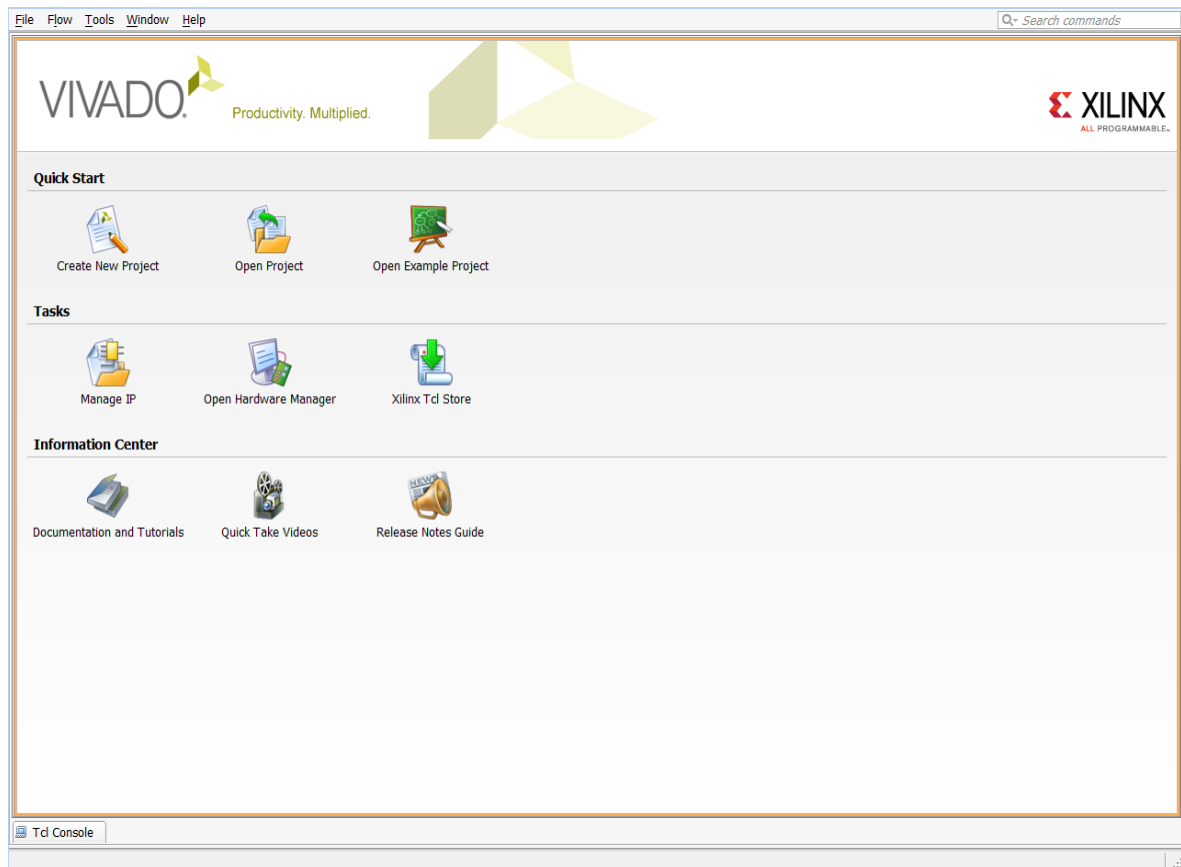

Figure 9-3: Create a Vivado Project
2. From the Welcome screen, click **Create New Project** (Figure 9-3).